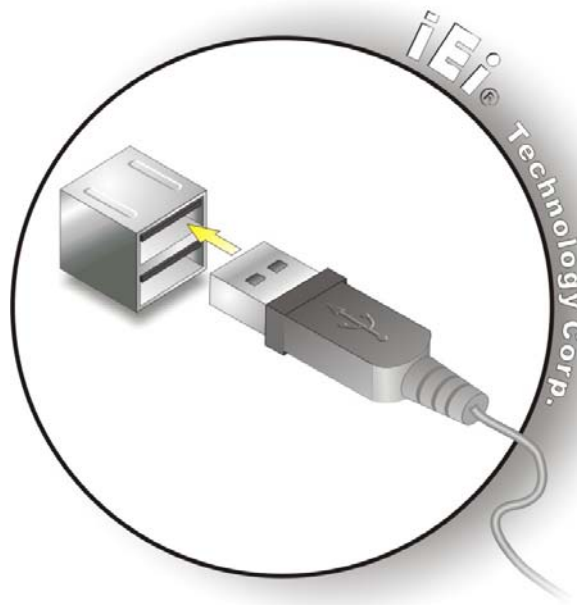

Figure 4-22: USB Connector
Step 2: **Insert a USB plug.** Insert the USB plug of a device into the USB receptacle on the external peripheral interface. See **Figure 4-22**.